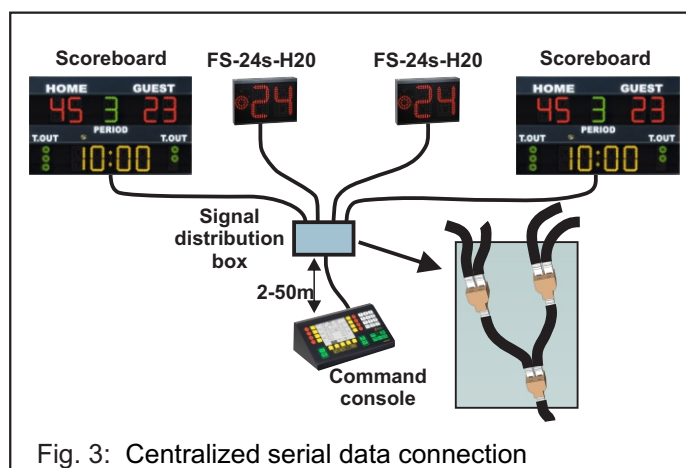

Fig. 3: Centralized serial data connection
1. Centralized connection (see Fig. 3). In an easily accessible location, a signal distribution box is placed, from which diverges a cable for each scoreboard. The advantage of this method is that it has a single point of connection; therefore, if one of the cables is interrupted, only one display scoreboard is compromised.